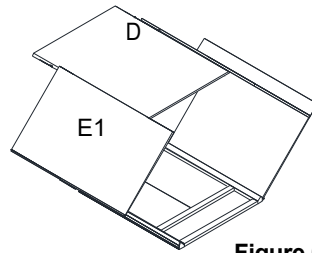

Figure 6
5. Installing the Back Panel and Toe Kick : Place the back panel (D) onto both Left and Right Rear Side Panels. (E1,E2) (Figure 6) Lock each cam lock connectors with a screwdriver by turning the screw. (Figure 3)